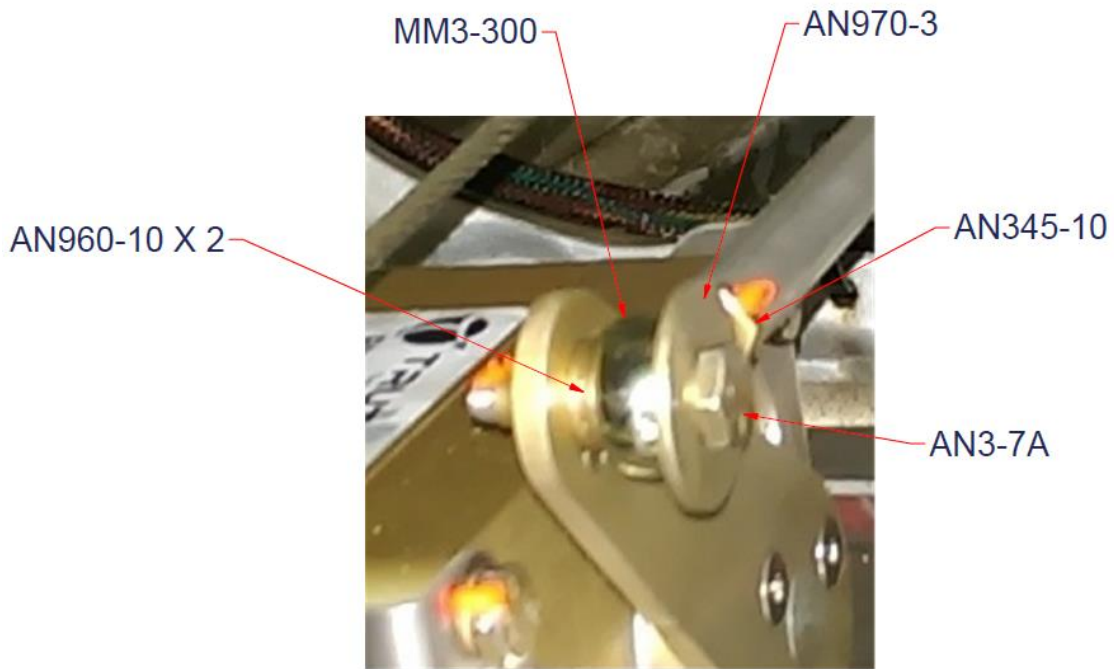

Figure 3-16
17. Attach the pushrod to the pitch servo arm with hardware as shown in Figure 3-16 and torque to 20-25 in-lb.